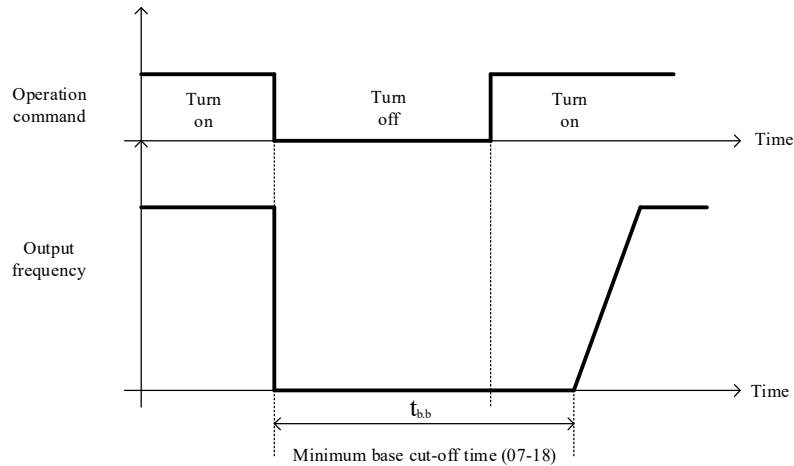

Figure 4.3.81 Free-run stop
(2) 07-09=1:
- Please refer to Figure 4.3.81.